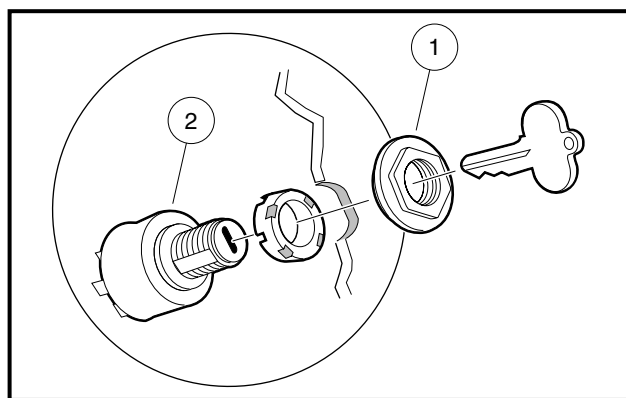

Figure 12a-19 Key Switch Removal
- 4.1. Remove the key switch nut (1) (**Figure 12a-19, Page 12a-14**).